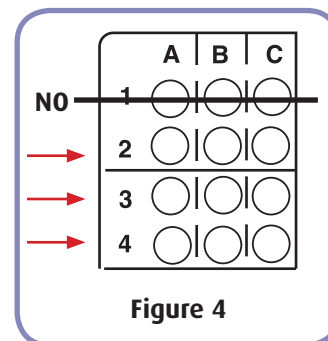

Figure 4
- Add 50 μ l or 3 drops of Antigen (Ag) to all the wells in Rows 2, 3, and 4. Do not add antigen to the wells in Row 1 (Figure 4).